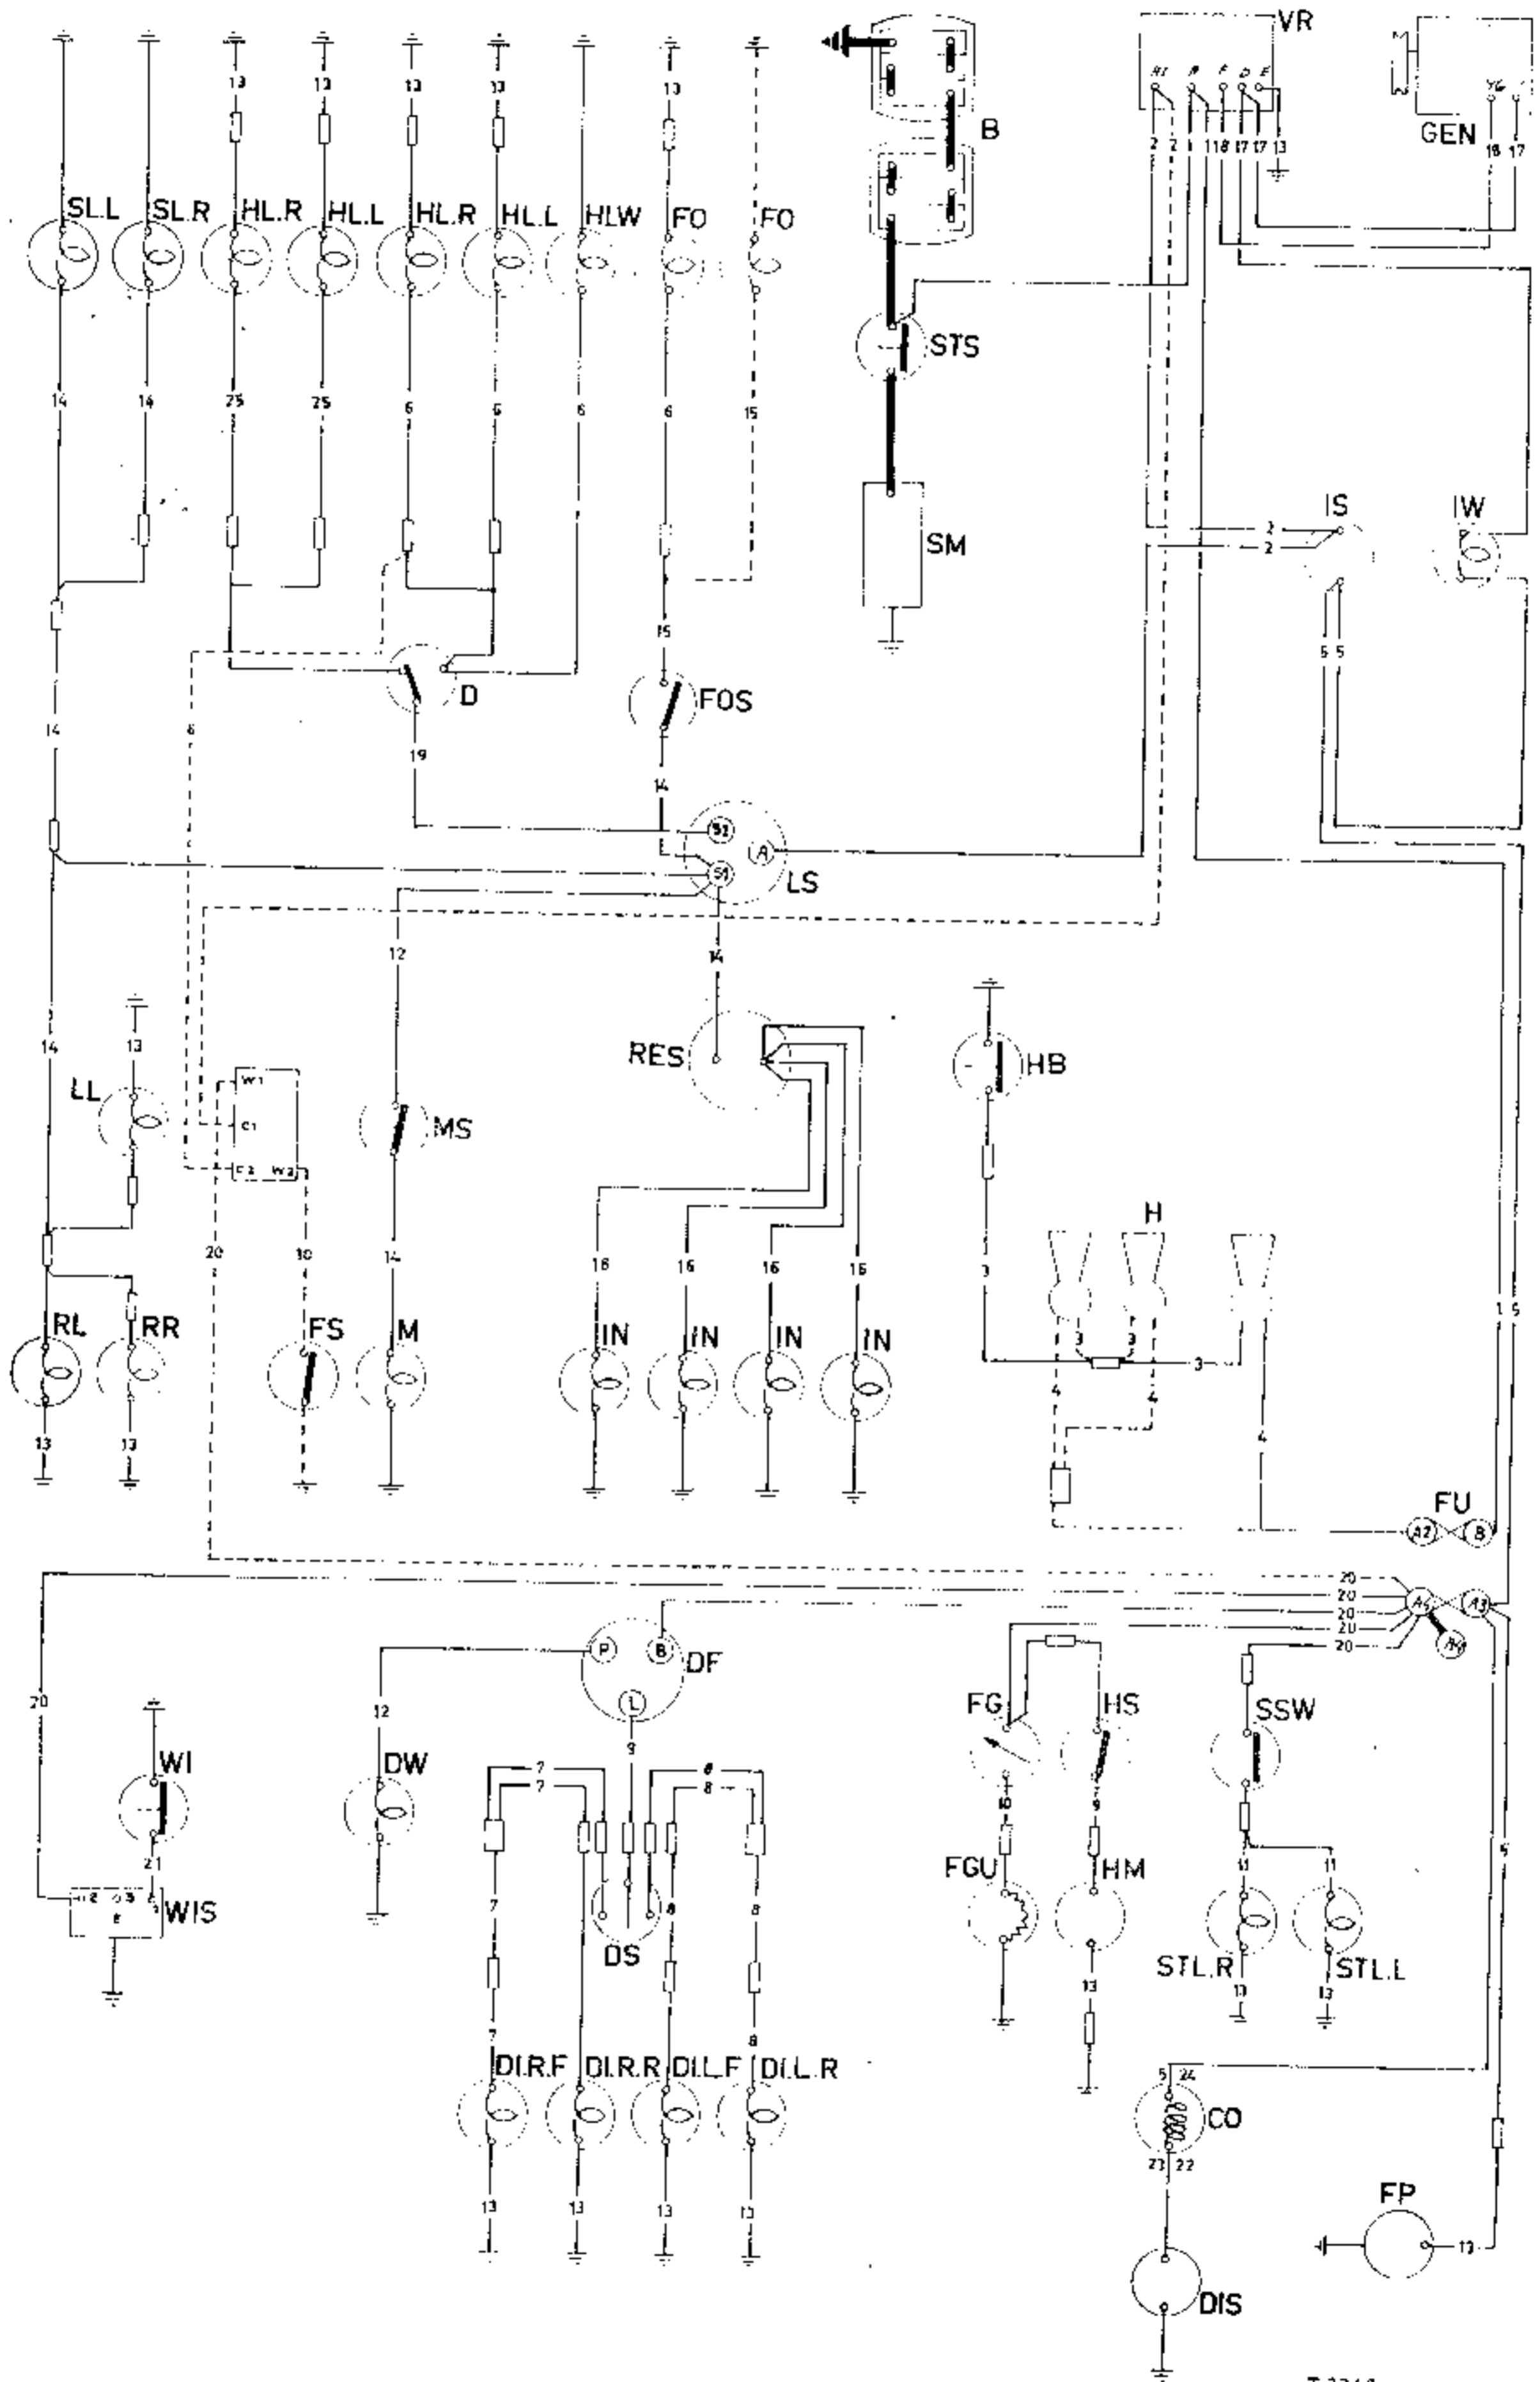

Fig. 38. Wiring diagram, MGA 1600
*Key to Fig. 38*
*Key to wire colours of Fig. 38*